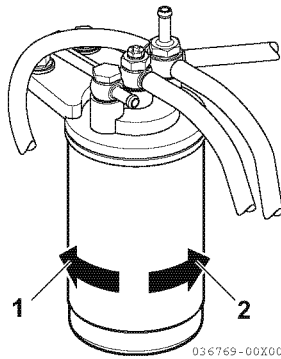

Figure 5-10
3. Remove the fuel filter with a filter wrench, turning it to the left (**Figure 5-10, (1)**). When removing the fuel filter, carefully hold it to prevent the fuel from spilling. Wipe up all spilled fuel.
5. Install the new fuel filter. Turn to the right (**Figure 5-10, (2)**) and hand-tighten it only until it comes in contact with the mounting surface. Tighten to 20 - 24 N·m (2.0 - 2.4 kgf·m) or one additional turn using the filter wrench.